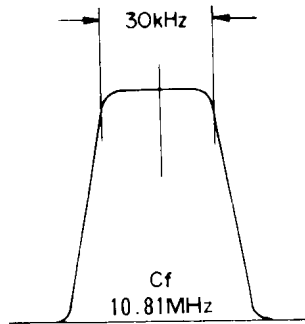

Figure 1
- Adjust the cores of T_{1005} , T_{1006} and T_{1014} until the scope pattern illustrated in Figure 1 is obtained.